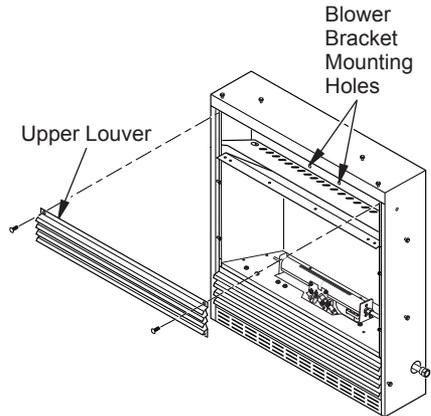
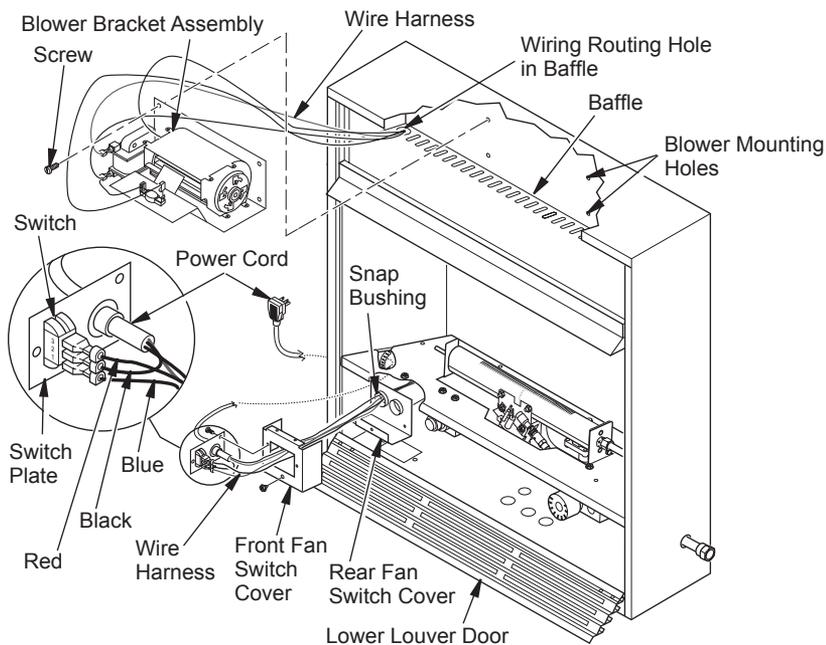

Figure 15 - Removing Upper Louver
Figure 16 - Installing Blower (Thermostat Unit Shown)
2. Remove 4 screws from upper louver (see Figure 15). Save these screws.
4. Open lower louver door by swinging door down (see Figure 16, page 15).
4. Note the wire locations on back of AUTO/OFF/ON switch. The terminals on back of switch are numbered 1, 2 and 3. Carefully remove red wire from terminal 3 and blue wire from terminal 1. Black wire can remain on middle terminal 2 (see Figure 16, page 15).
6. In top of the fireplace cabinet, locate the four mounting holes on the outer casing. Align these four holes with those on the blower bracket assembly. Attach blower bracket assembly to the outer casing with 4 #10 screws provided (see Figure 16).
7. Route the wire harness through the hole in left side of baffle. Pull wire harness through lower opening of firebox (see Figure 16).
8. Insert the 4 wire harnesses into one of the round holes in the rear of the fan switch cover and through the rectangular hole on front of the fan switch cover (see Figure 16).
- Route power cord out of the cabinet by inserting it through the bushing on the outer casing (see Figure 16, page 15). Plug fan kit into 120 Volt grounded power supply and test operation. **Note:** When switch is in the AUTO position, the fan will start after the fireplace has run for a few moments. The fan will continue to run for several moments after the fireplace has been turned off. When switch is in the ON position, the fan will run until turned to OFF. Reinstall upper louver (see Figure 15, page 14). Close lower louver door.
- Reinstall upper louver (see Figure 15, page 14) and close lower louver.